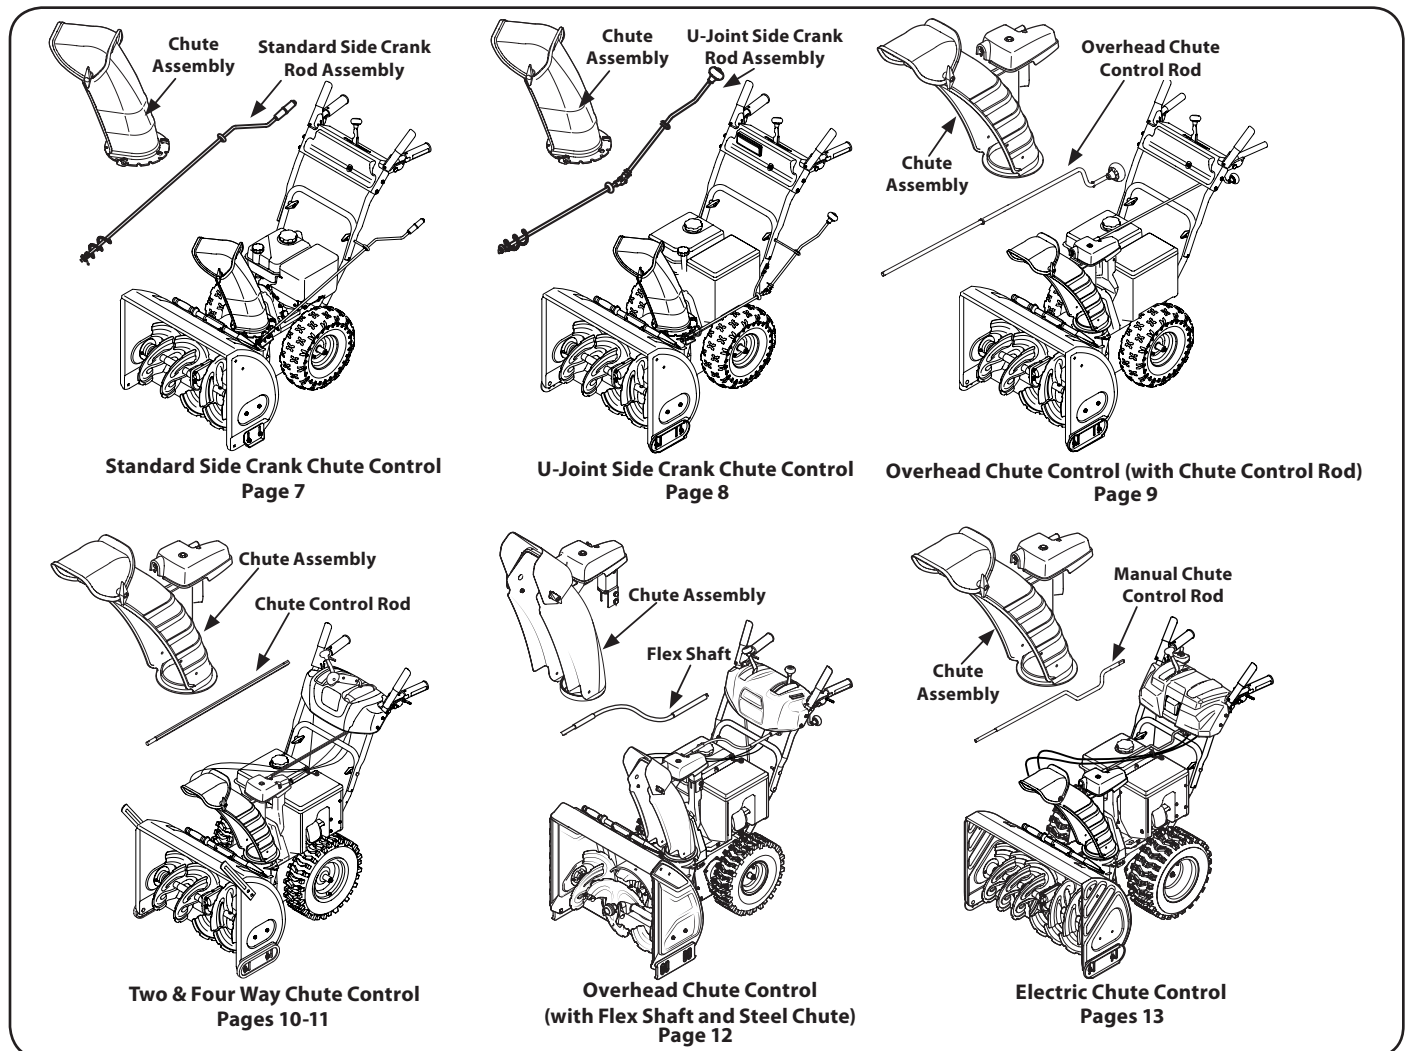

Figure 2-1
**NOTE:** This Operator's Manual covers several models. Features may vary by model. Not all features in this manual are applicable to all models and the model depicted may differ from yours. Refer to Figure 2-1 which shows the different versions and match the contents of carton (chute and directional control rod/flex shaft) to identify your specific unit.
**NOTE:** On units with Overhead Chute Control (with Flex Shaft), Four-Way Chute Control, and Electric Chute Control cut cable ties securing flex shaft to the lower handle and set the flex shaft aside. Remove rubber bands securing cables to carriage screws and cut cable tie securing shift rod to lower handle. Refer to Figure 2-1 to help identify your unit.
Refer to Figure 2-1 and proceed to your applicable Chute Control Style on pages 7-14.